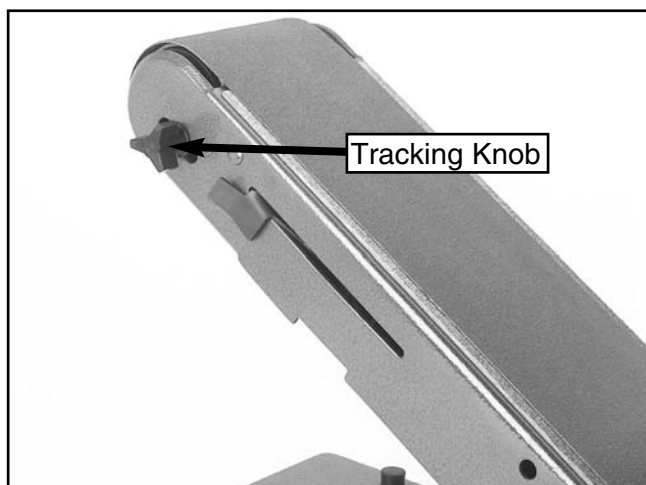

Figure 14. Sanding belt tracking knob.
3. If the sanding belt moves toward the disc, turn the tracking knob shown in **Figure 14** clockwise $\frac{1}{4}$ turn.